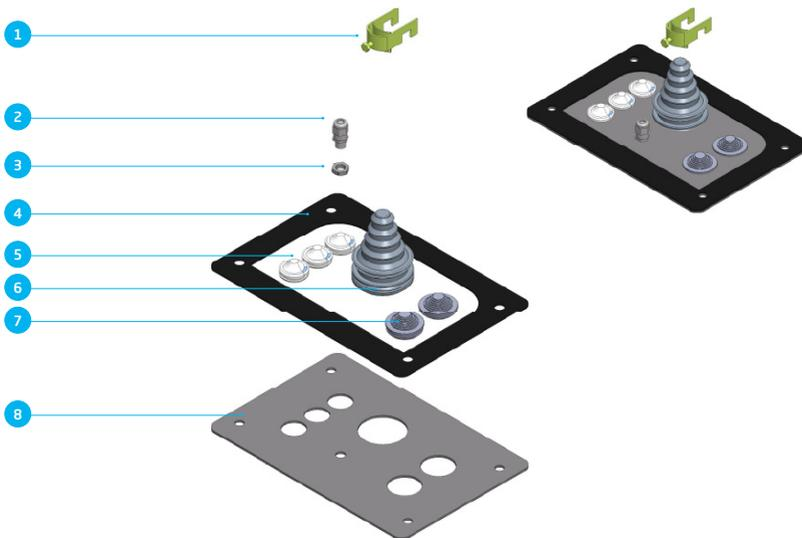

Figure 5: Bottom assembly overview
- d. Cut the cable grommet to fit, so that it firmly grips the supply cable and guide the supply cable through the charging station. Pull the supply cable to the exterior of the charging station to install the strain relief (see figure 5).